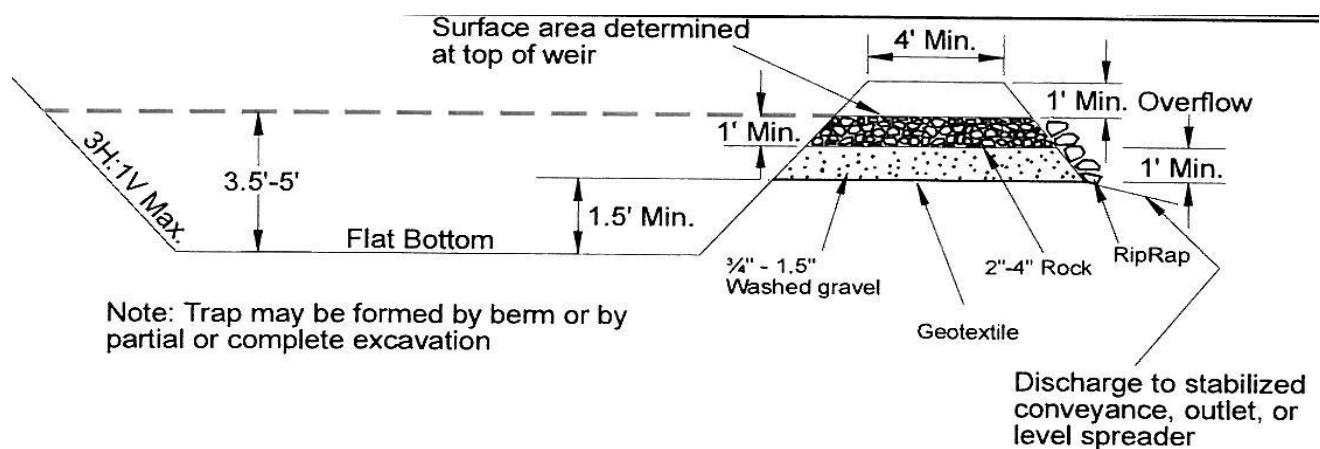
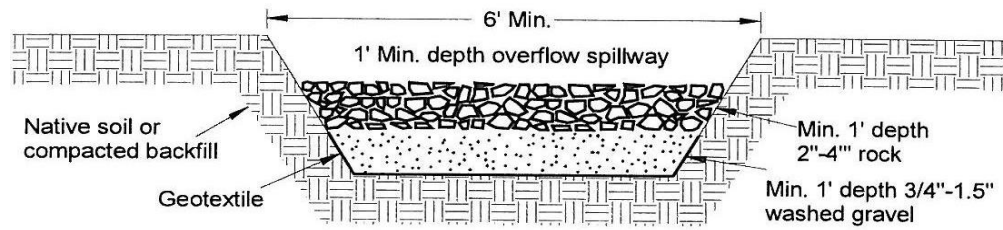

Figure 18. Cross-section of sediment trap.
Figure 19. Sediment trap outlet.
- See Figure 18 below for the cross-section of a typical sediment trap and Figure 19 for outlet details.